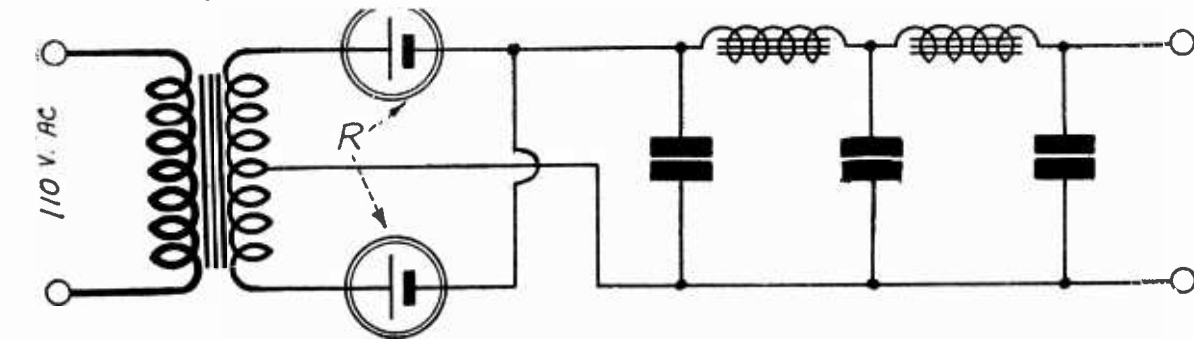

Fig. 712
(2)—Fig. 712 shows a circuit of an A battery eliminator. The three condensers should be electrolytic and the two choke coils should be of low inductance (.5 henry) and of large current carrying capacity. The transformer and rectifier may be those of a battery charger.